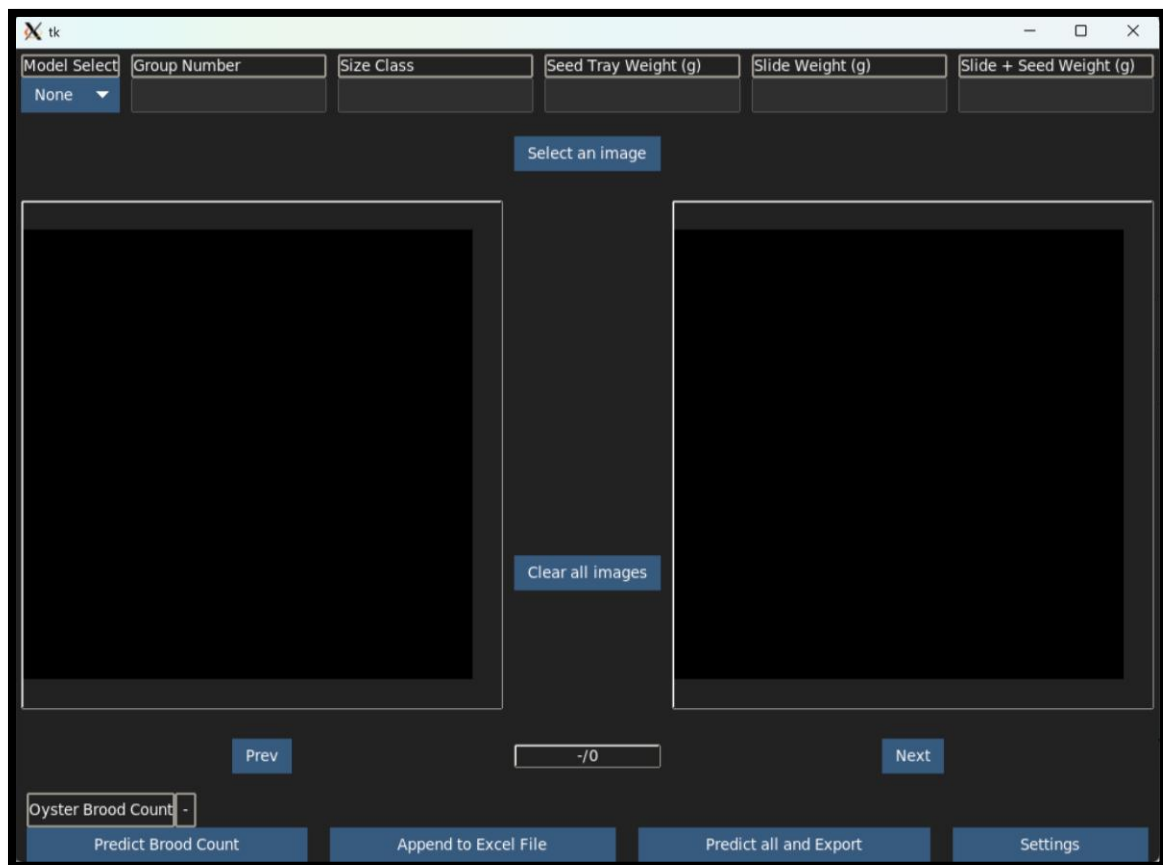

Figure 4.1. The open seed counting software window.
3. First, the command window will appear, followed by a new window displaying the seed counting software (Figure 4.1).
5. After closing the Settings window, click on “Select an image” located near the top center of the screen (Figure 4.1). This will open a pop-up window where you can choose the images you want to analyze from your “images” folder. Multiple images can be selected at once. Once selected and loaded into the software, you should see the image on the lefthand side of the screen. You can cycle through and view all images by clicking “Prev” and “Next”.